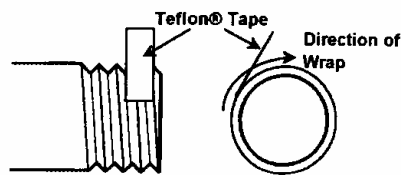

Figure 1
3. Wrench tighten tailpipes of upper and lower gagecocks to the vessel using Teflon® tape, or equivalent, on all male tapered pipe thread connections as shown in Figure 1. If the gagecock is flanged or weld mount, use proper industry standard procedures.
**LEAKAGE AROUND UNION** connections can often be stopped by tightening union coupling nut or remake connection using Teflon® tape, or equivalent on all male pipe threads as shown in Figure 1.